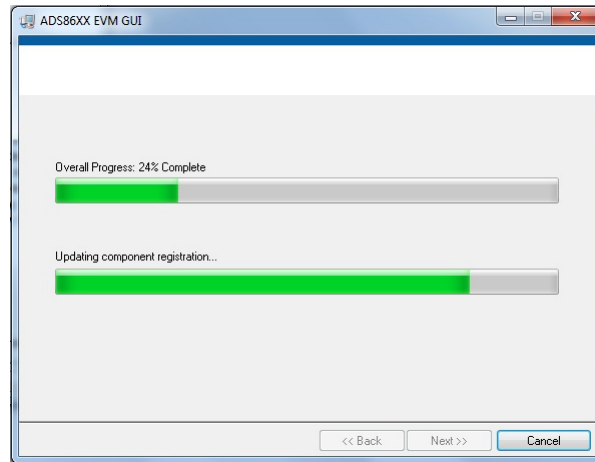

Figure 11. Start Installation Screen
- The start installation screen appears, as shown in Figure 11. Click **Next**.